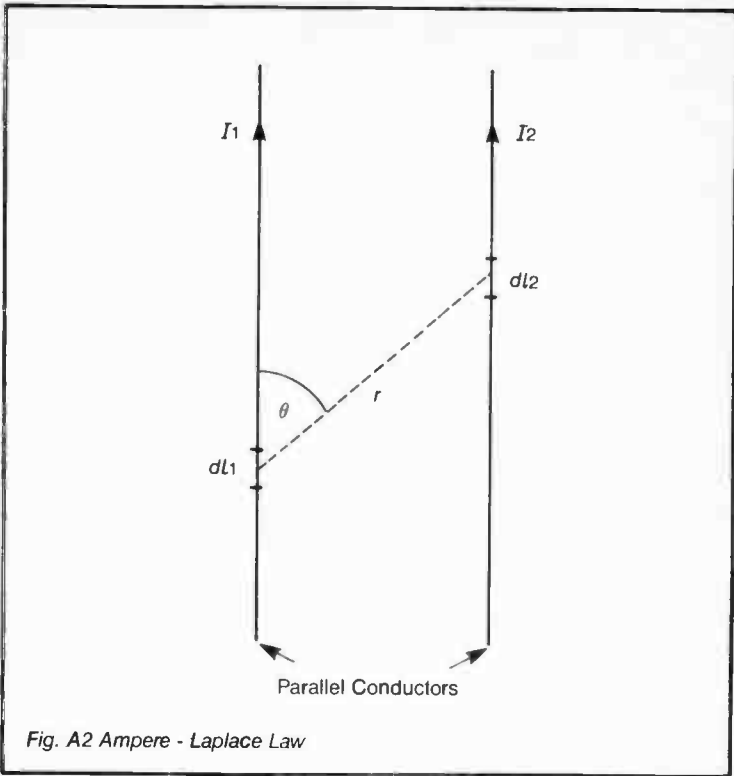

Fig. A2 Ampere - Laplace Law
**AMPERE–LAPLACE LAW (BIOT-SAVART LAW)** This is a law relating electrical with mechanical energy, more specifically, current with force. It applies to two parallel conductors with currents  $I_1$  and  $I_2$  flowing. If very short elements of length  $dl_1$  and  $dl_2$  are considered as shown in Figure A2, then the incremental force,  $dF$  acting between the two current elements in free space or almost equally in air is given by: